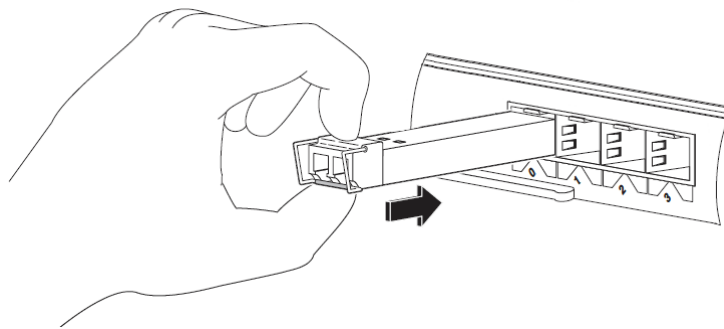

Figure 4: Installing an SFP+ Module into a port
5. Line up the module with the port and slide it into the port as shown in Figure 4.